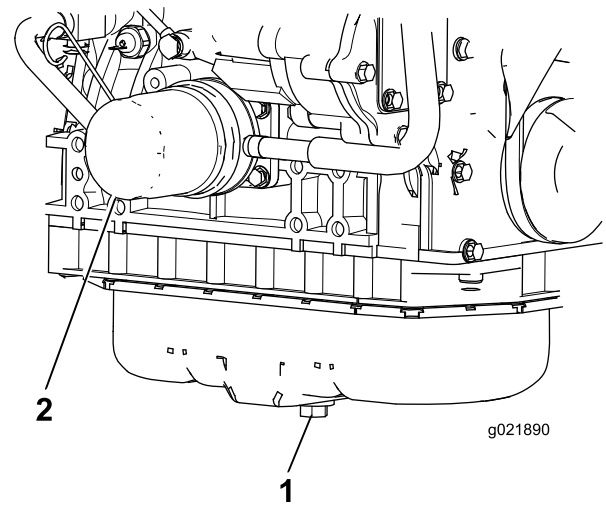

Figure 56
1. Remove the engine oil drain plug (Figure 56) and let the oil flow into a drain pan. When all the oil is drained, install the drain plug.
2. Remove the oil filter (Figure 56). Apply a light coat of clean oil to the new filter seal before screwing it on. **Do not overtighten.**